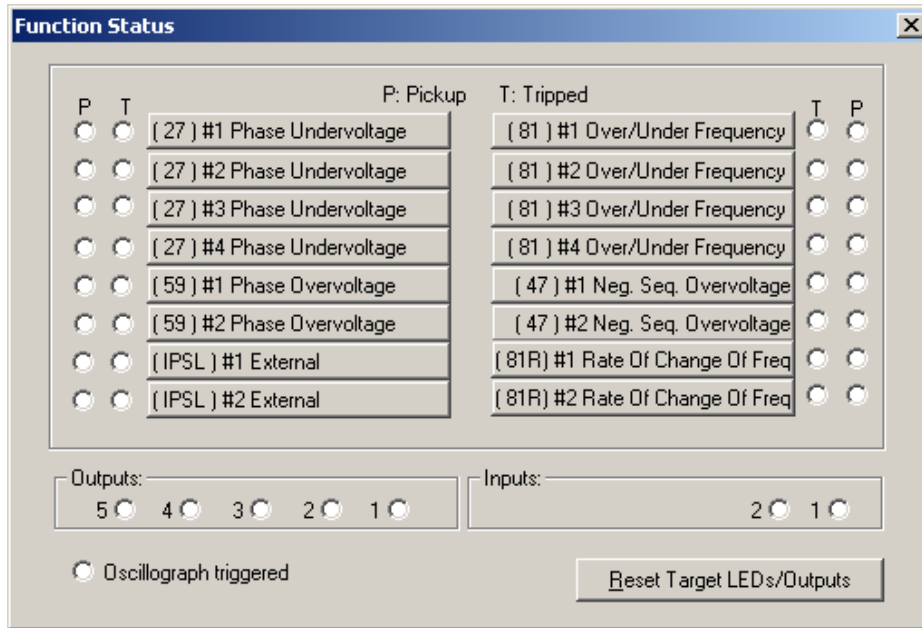

Figure 4-12 IPScom® Function Status Dialog Box
**Function Status** screen displays the status of various functions, including trip and pickup status (see Figure 4-12).